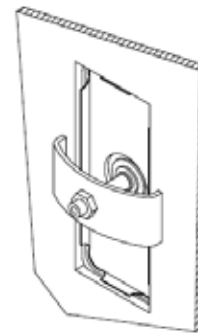

Figure 3: Aerator Kit Installed in Bin Wall
7. Holding the aerator by the tank nipple, slip the entire assembly through bin wall. Rotate the clamp to bridge the opening and tighten locknut. Aerator is securely held in place and hole in bin wall is positively sealed (refer to Figure 3).